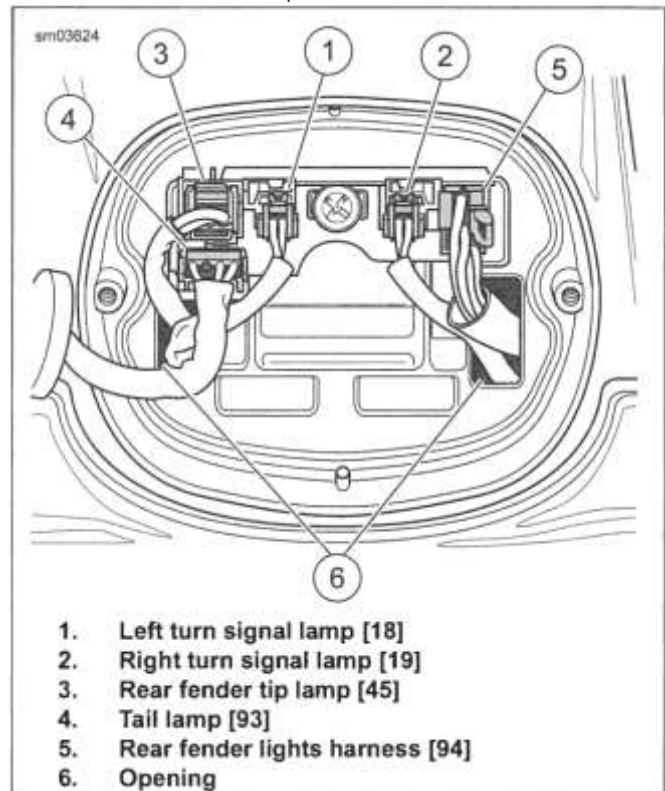

Figure 8-65. Rear Fender Lights Connectors
See Figure 8-65 and Figure 8-66. Disconnect both turn signal lamp connectors.
7. See Figure 8-65. Connect both turn signal lamp connectors.
3. Route connector through lightbar and fender hole (2).
5. See Figure 8-65. Install connector in correct location.
See Figure 8-65 and Figure 8-66. Disconnect appropriate turn signal lamp connector.